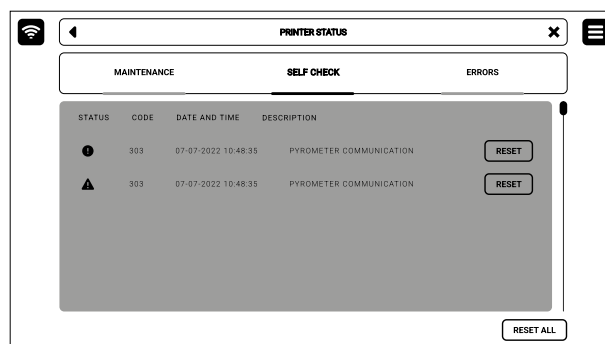

Fig. 12.4 **ERRORS** screen.
- ERRORS** tab, in which you will see possible errors and messages of damage to printer components (fig. 12.4).